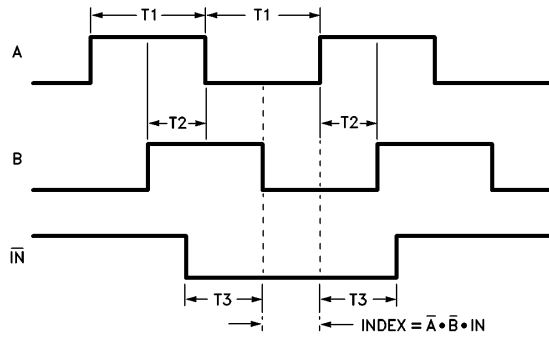

FIGURE 2. Quadrature Encoder Input Timing
**ENCODER AND INDEX TIMING** (See Figure 2)